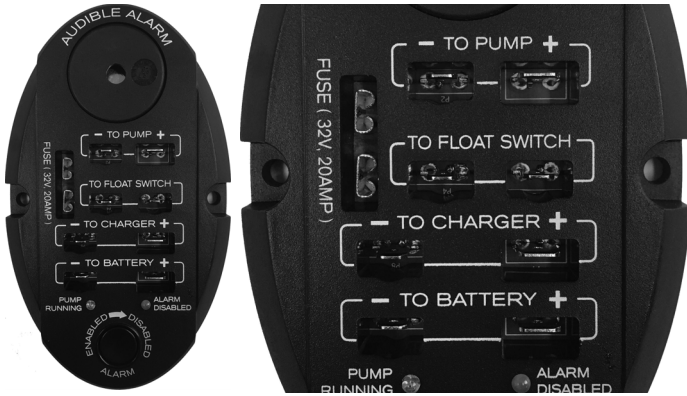

Figure 8. Terminal Block
1. Apply the double-sided tape to back of the terminal block (Figure 8).